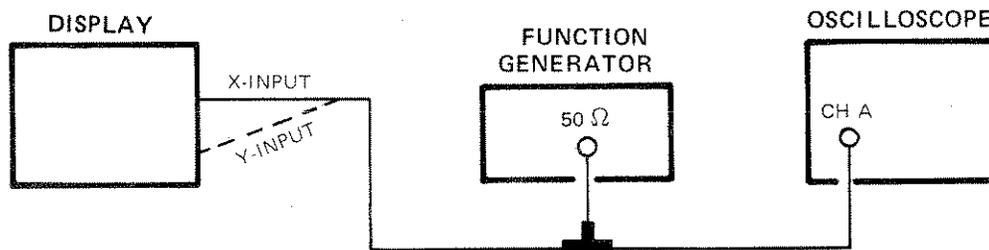

Figure 4-2. Bandwidth and Rise Time Test Setup
- a. Connect equipment as shown in figure 4-2.